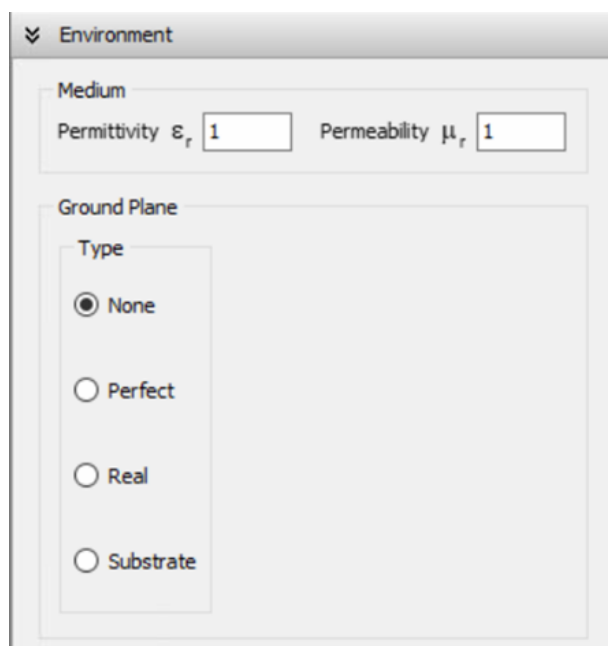

Fig. 1: None option in the Ground Plane box of the Environment panel.
2. Choose the **None** option in the Ground Plane box, Fig. 1.